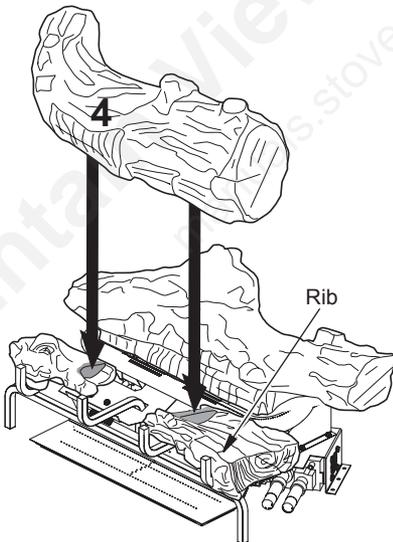

Figure 30 - Installing Log #4
4. Place front log (#4) on top of left and right bottom logs as shown in Figure 30. Notches in bottom of log #4 will fit over ribs in logs #2 and #3.